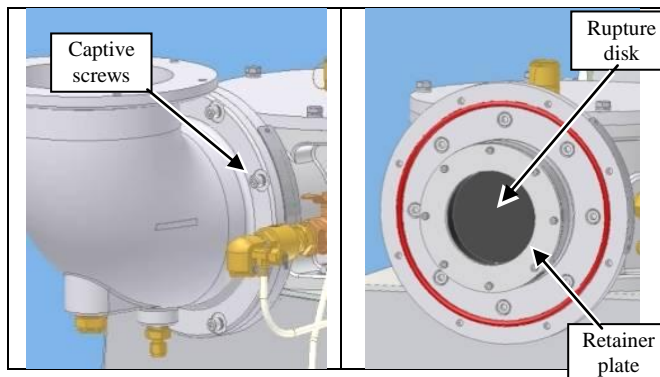

Figure 7-7 - Remove the Rupture Disk (Rex)
(Rex Magnets with Copper vent lines. See Figure 7-7)
2. Use a 6-mm hex-key wrench to loosen the 8 captive socket head screws that secure the quench vent elbow to the magnet. (Refer to Figure 7-7) Remove the quench vent elbow and O-ring.